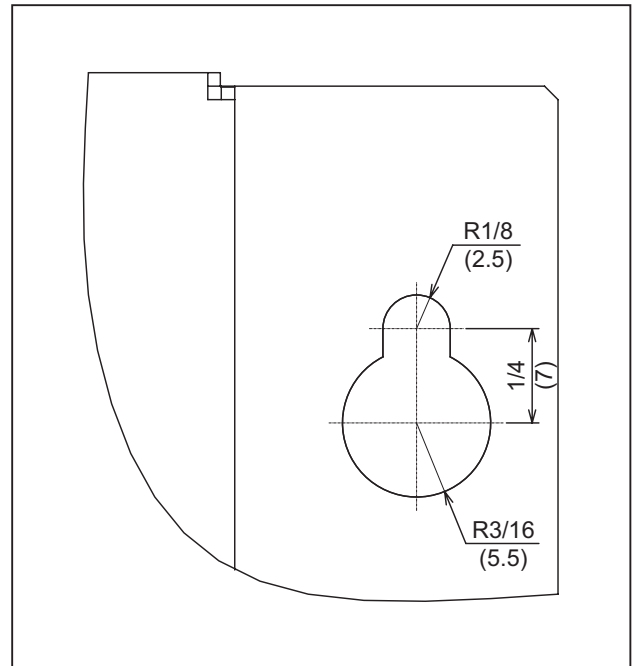

Figure 19. Details of Mounting Hole
- Select suitable mounting screw size from the figure 19.